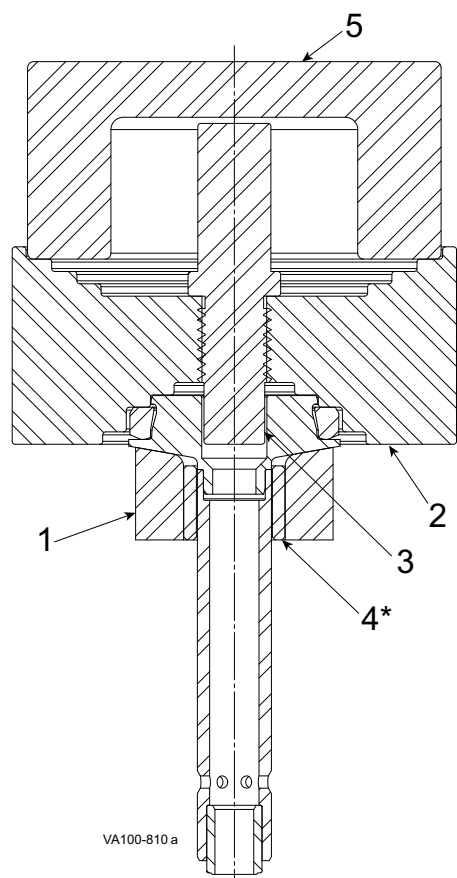
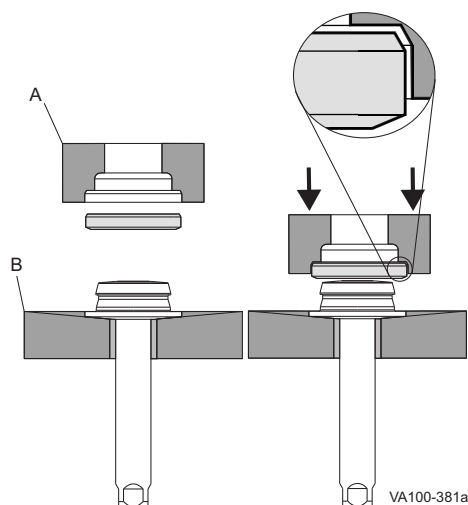

Figure 31 - Upper Stem Tef Flow® P Seat Installation (Kit # 132356+)
Figure 32: Tef Flow® P Seat
1. Place the PTFE installation base (Figure 31, item 1; Figure 32, item B) over the stem, making sure that the chamfered side rests on top of the stem plug and the flat side of the base faces away from the stem plug.
2. Take the aluminum seat installation tool (Figure 31, item 2; Figure 32, item A) and install the aluminum locator pin (Figure 31, item 3) by threading it into the seat installation tool, orienting it so that the locator pin fits into the seat plug and the correct size shoulder matches the seat that is being installed.
3. Place the new Tef Flow® P Seat in the aluminum seat installation tool (Figure 31, item 2; Figure 32, item A), orienting the seat so that the side with the chamfered edge is facing into the installation tool as shown in Figure 32.
6. Set the protective installation tool puck (Figure 31, item 5) over the top of the locating pin and installation tool.
7. With the arbor press, apply even pressure to the top of the installation tool puck (Figure 31, item 5) until the seat snaps into place on the stem plug.